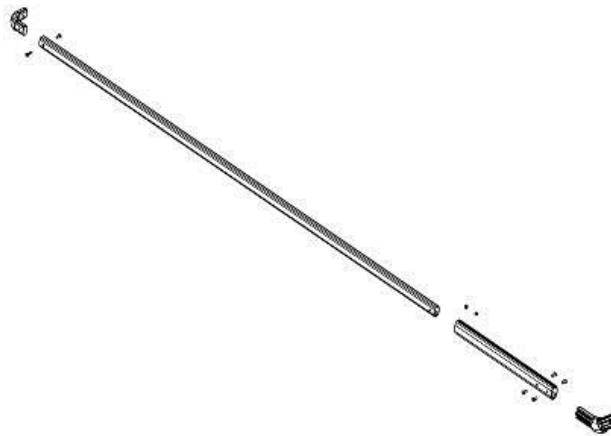

Fig. 2 (Upper Arm Assembly)
- 2) Assemble the upper arm sections (see Fig. 2)
- 7) Slide the upper arm assembly (created in step 2/ Fig. 2) back and forth along the pivot tube until the bow tube lines up centered on the rubber pad on top of the tarp spool.